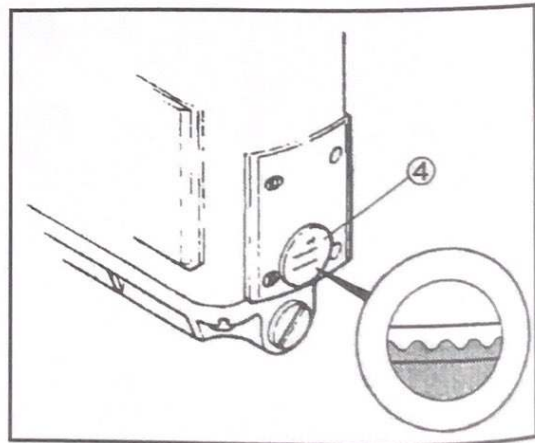

Fig.14
- (2) 從油孔 ① 加油直到油量到 ③ 最上方的紅線，從油孔 ② 加油直到油量到 ④ 最上面的紅線。(Fig.14)
- (3) 使用機器前檢查油水平。如果沒到水平線要加油。
- (4) 當機器在使用中時，從油鏡 ⑤ 和 ⑥ 檢查油有無供應。
- (1) Remove the plug screws ① and ② indicated "OIL" and supply oil.
- (2) From the plug screw ①, supply oil until the oil level indicator top reaches the upper line in the oil sight gauge ③. From the plug screw ②, supply oil to the upper line in the oil sight gauge ④. (Fig.14)
- (3) Check the oil level between the lines in the oil sight gauge ③ and ④ before running a machine. If it is under the lines, supply oil.
- (4) Check the oil splashes from the nozzle inside the oil sight top windows ⑤ and ⑥ when starting to run a machine.